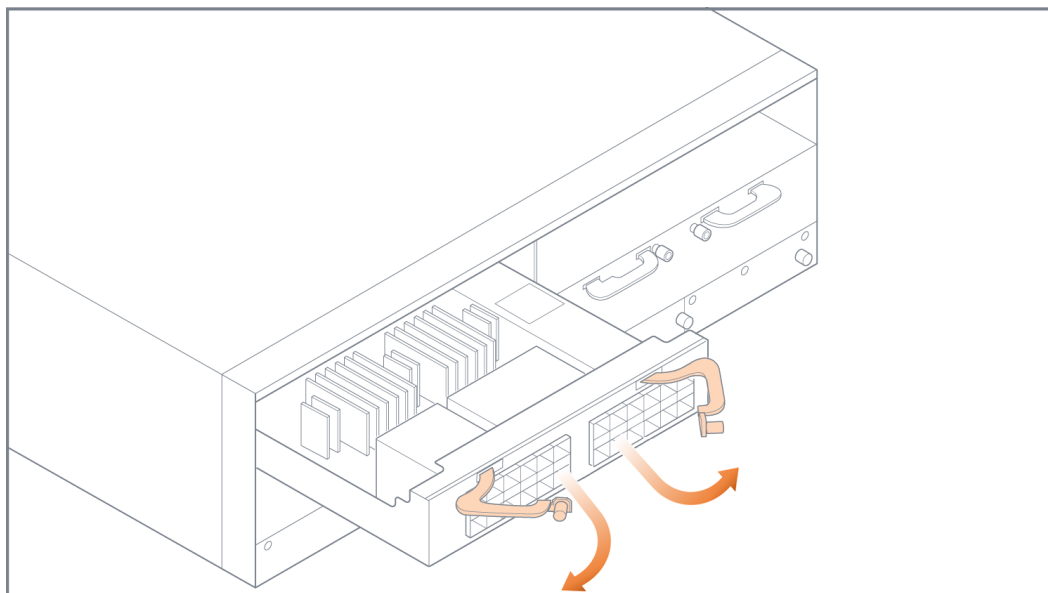

Figure 10 *Module Levers*
1. Pull out the two levers at the top of the module, as shown in Figure 10 Module Levers.